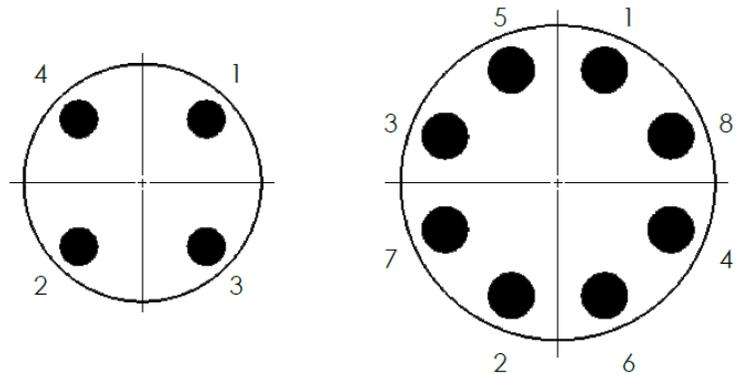

Figure 6
4. Tighten bolts and nuts gradually with a torque wrench to the specified torque value in a diagonal manner. (Refer to the table at left and figure 6)